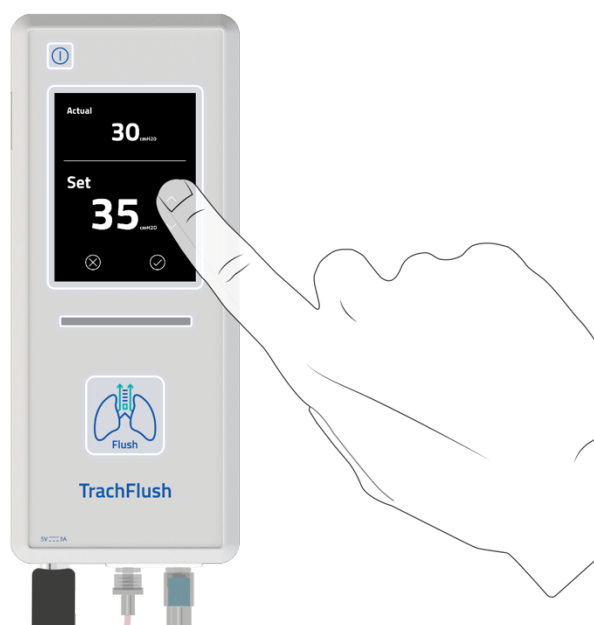

Figure 11: Increase cuff pressure
**Step 1:** Increase the cuff pressure by pressing  (arrow up) as shown on figure 11 below.